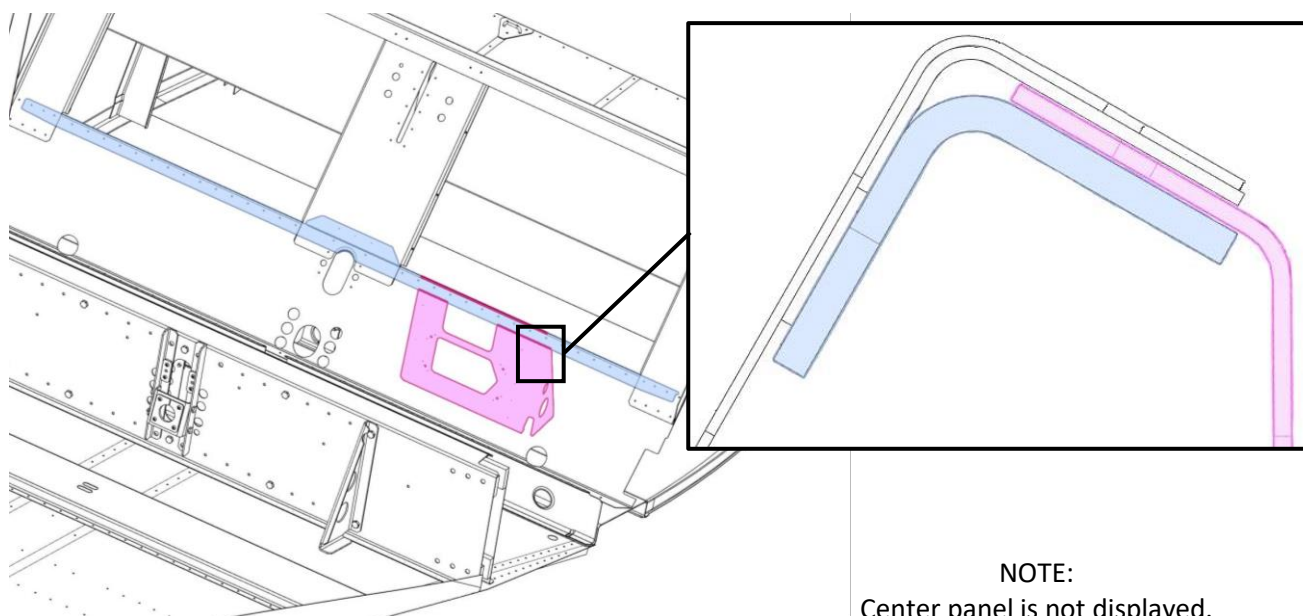

Fig. 1: Backrest wall reinforcement
- 5) Drill out the rivets from the edge (blue area). See Fig. 1. Do not drill out the rivets from the center section between seats.
- 9) Attach the upper (002) and lower (001) reinforcement. Pay close attention to the attachment area of the autopilot bracket (pink area). See Fig. 1.